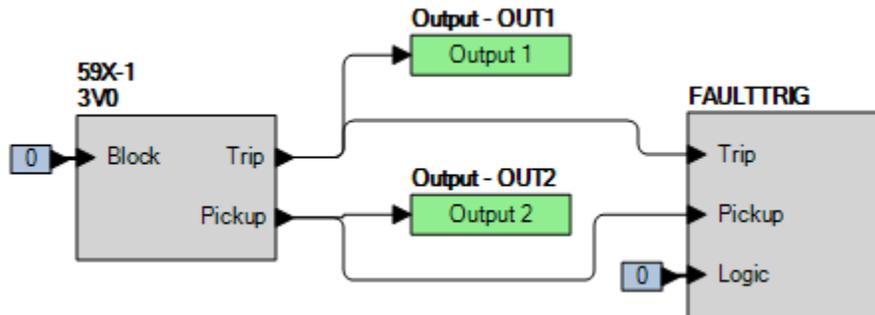

Figure 46-1. BESTlogicPi+ Settings (3V0 Mode)
Step 2: Use BESTCOMSPi+ to configure the BESTlogicPi+ programmable logic shown in Figure 46-1.
Step 4: Prepare to monitor the 59X-1 function operation. Operation can be verified by monitoring OUT2 (see Figure 46-1).